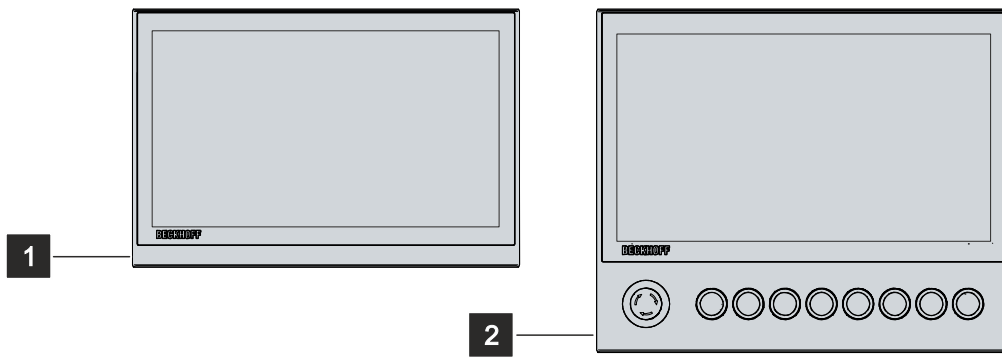

Fig. 1: CP29xx_without and with push button extension
Explanations of the push button extension and the functions can be found in the installation and operating instructions for the C9900-G0xx. Figure 1 shows an example of a Control Panel without (1) and with (2) push button extension.